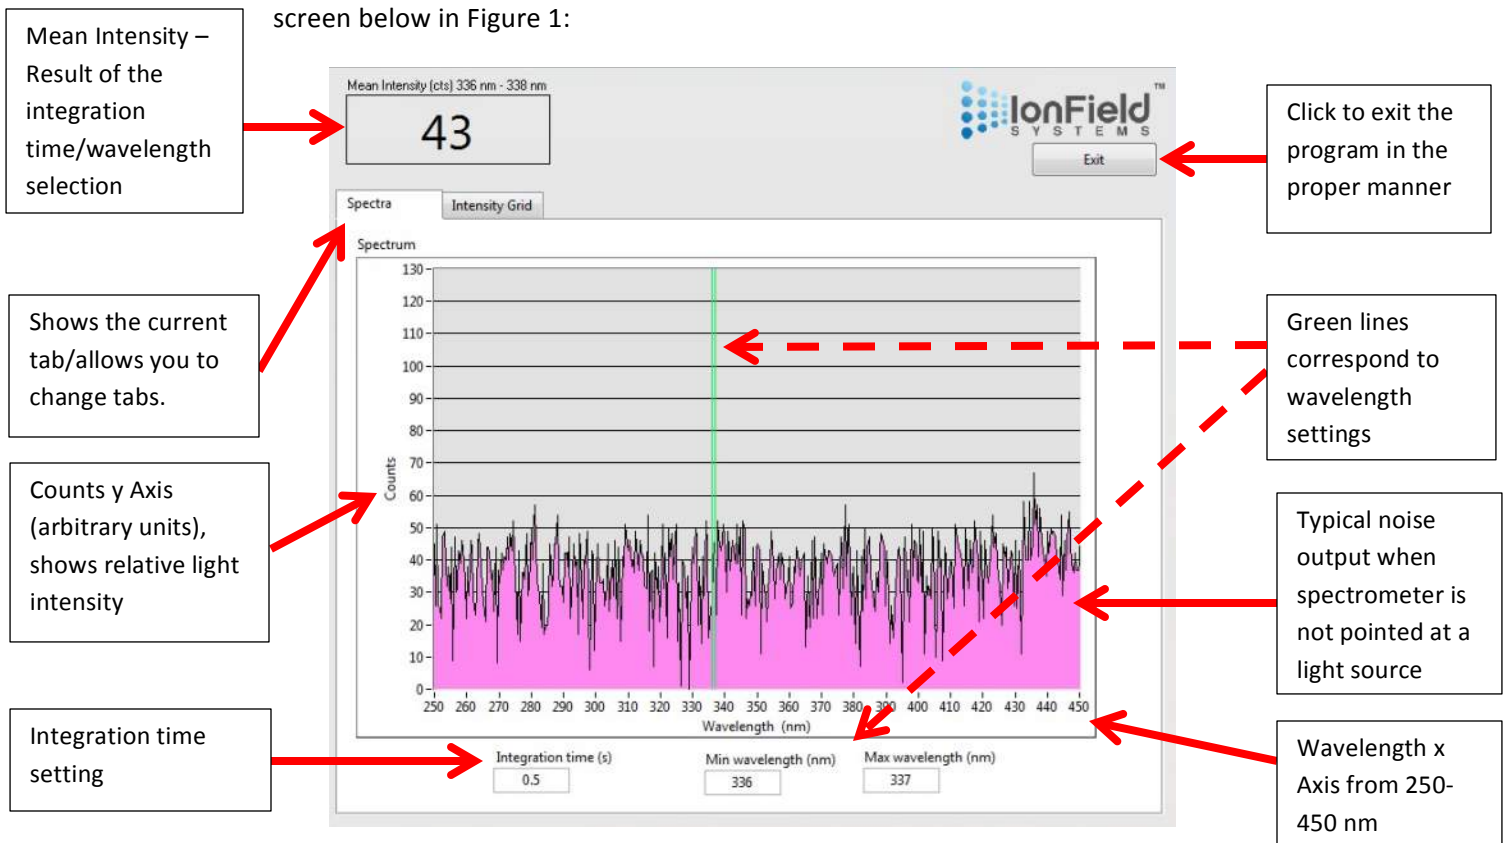

Figure 1 – Spectra Tab – Typical Start Screen
6. The spectrophotometer spectrum output from the spectrometer should appear as on the screen below in Figure 1: